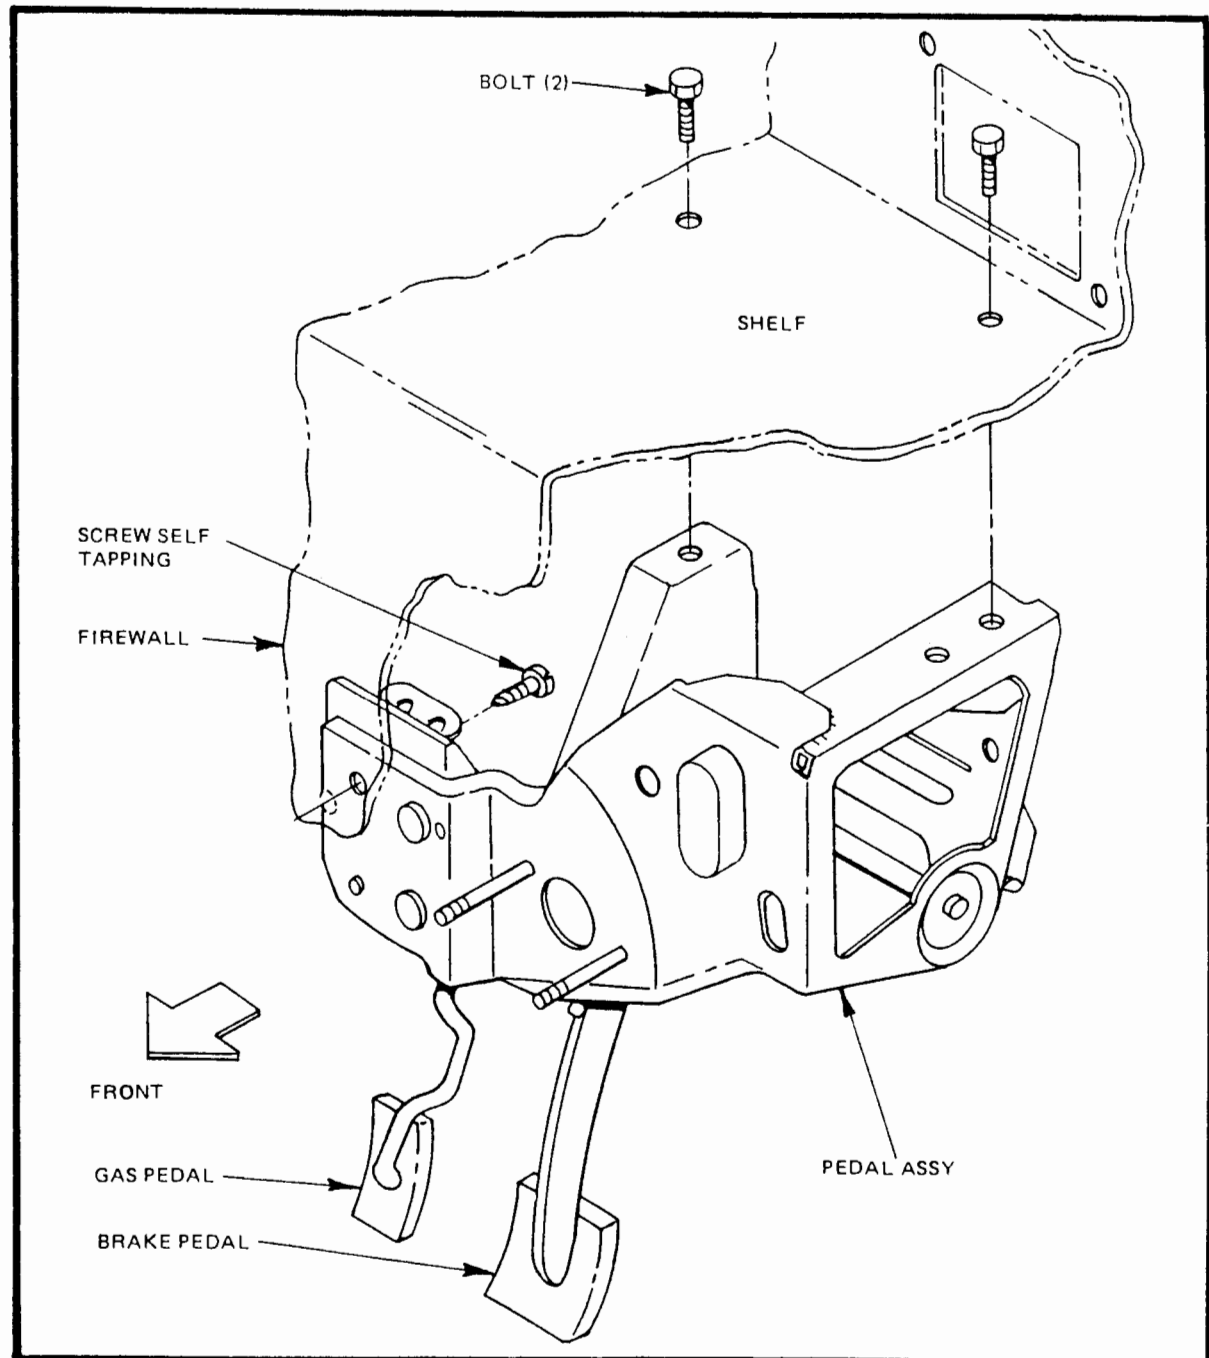

Figure 11
- Remove the two bolts on the horizontal surface by the left hood hinge. Remove self-tapping screw by accelerator pedal and remove assembly from car. Save all bolts. (Figure 11)